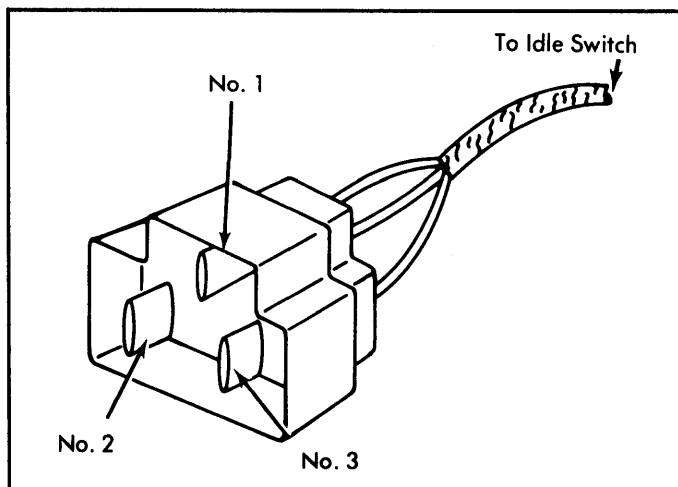

Fig. 4: Idle Switch Terminal Identification
**Man. Trans. Equipped Models** - Disconnect idle switch. Check continuity between numbered terminals. See Fig. 4. With engine at idle, continuity should exist between terminals No. 1 and 3, with no continuity between terminals No. 1 and 2. Increase engine speed to 1000 RPM. Continuity should exist between terminals No. 1 and 2, with no continuity between terminals No. 1 and 3.